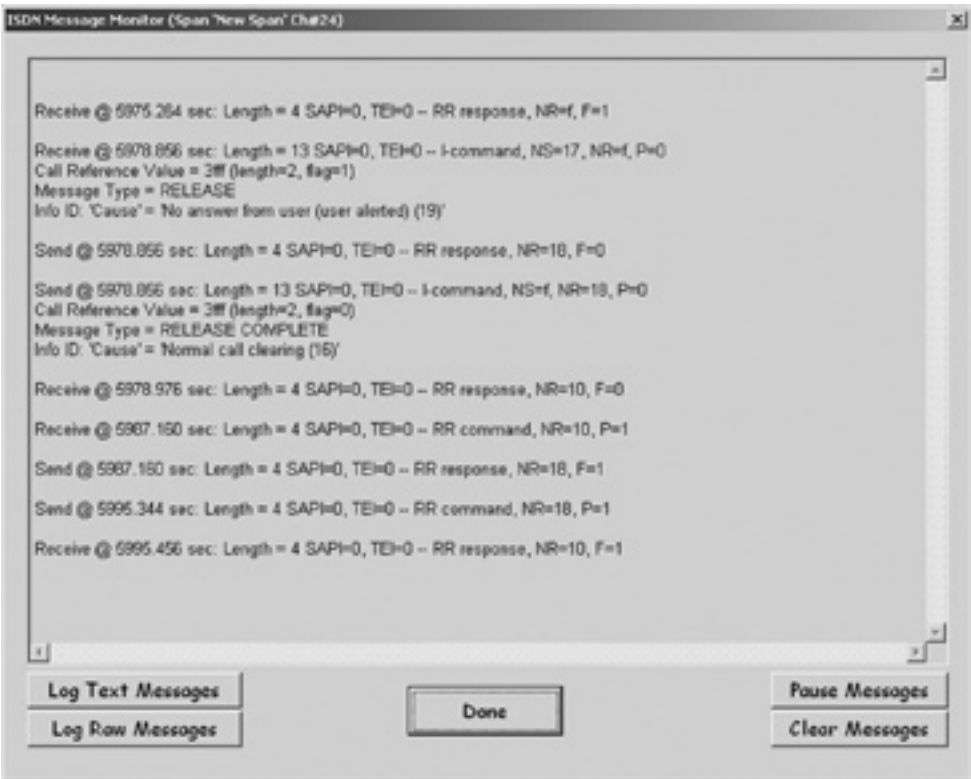

Figure 125
8. Located at the bottom right hand corner of the main test screen for ISDN D Channel test is a button labeled “msg...”. This button is not used for configuration settings, but is useful for ISDN debug situations. Clicking on this button launches a real time display of the ISDN traffic (see figure 125).